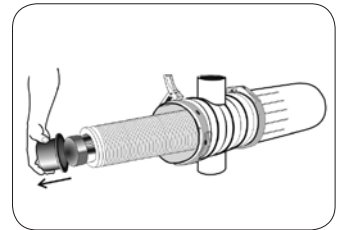

Figure 4
- Remove the tightening cylinders (Figure 4).